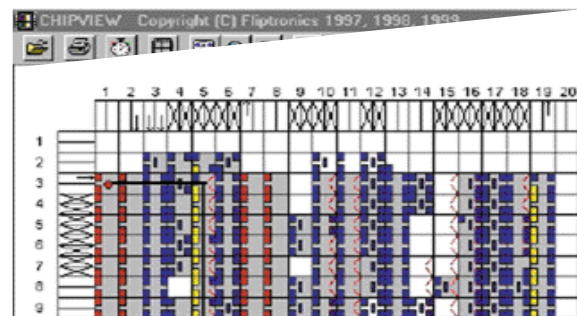

Figure 3
- Generates a 2-D plot of chip placement (Figure 3).
ally, you can quickly determine the portions of a design that need further floorplanning. One such path is shown in Figure 3; It starts at the green circle (R11C5), extends up column 5 and ends at the red circle (R3C1). ChipView works with both schematic- and HDL-based design flows.